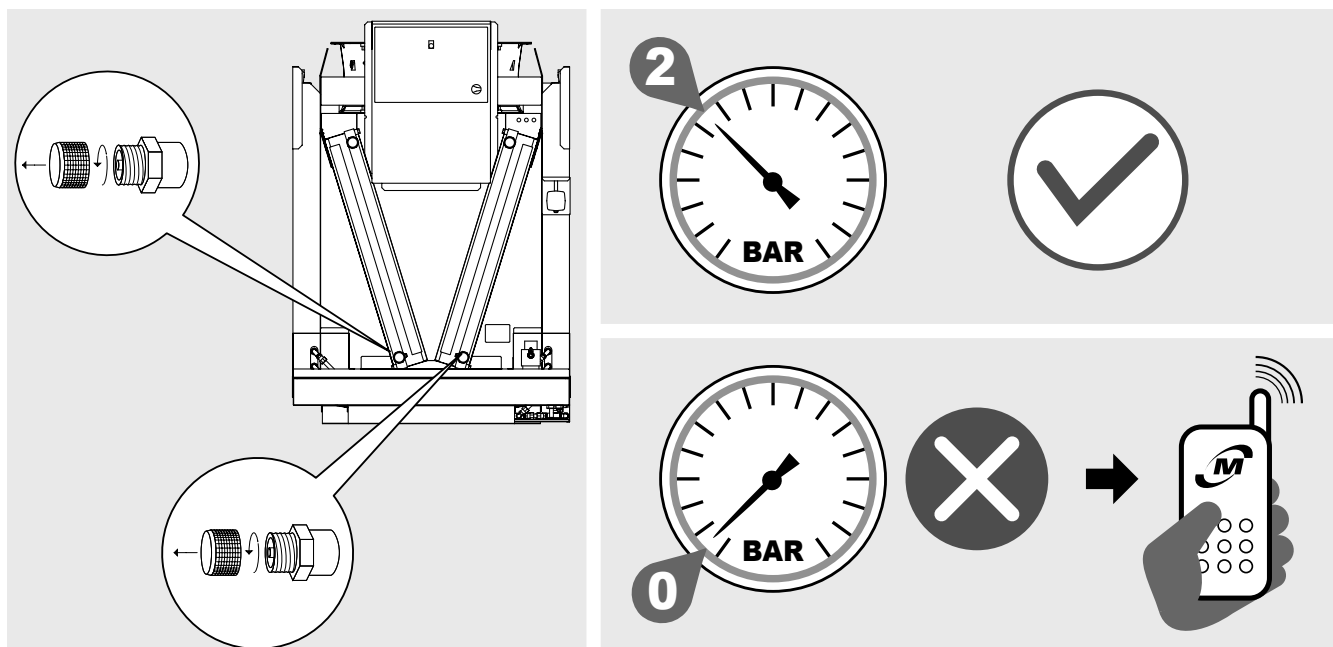

Figure 4
- 4.2 The heat exchangers of the condensers (AVK) and the gas coolers (AVS) are supplied with a pre-charge of dry air at 2 bar and have load couplings of 1/4" SAE. Check for the presence of pressure. In the absence of pressure immediately contact Modine and report the problem on the transport document. Insufficient pressure indicates a loss due to damage incurred during transportation. See Figure 4.